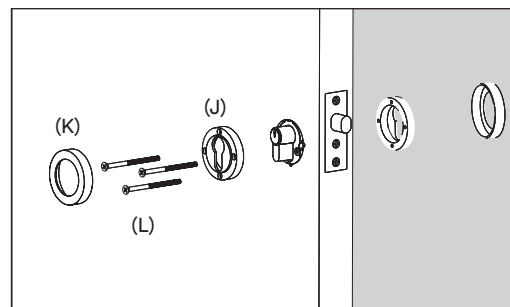

Figure 10.
17. Attach the euro escutcheon (sold separately) inner roses (J) using the connector bolts (L) (you may need to cut to length). Screw on the escutcheon outer roses (K). Figures 10 & 11.